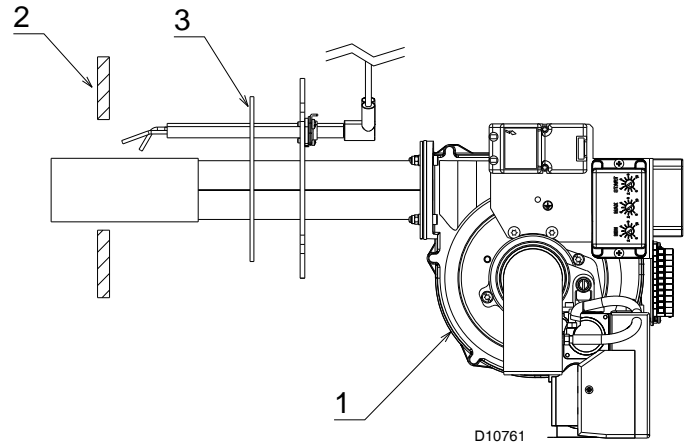

Fig. 5
- Fix the burner 1)(Fig. 5) to the generator door 2) using the 4 screws and (if necessary) the 4 nuts supplied to the standard equipment, interposing the insulating gasket 3).